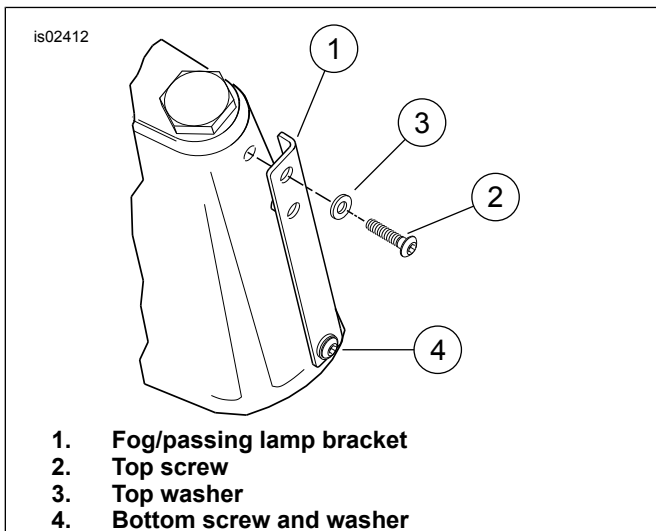

Figure 3. Passing Lamp Bracket
1. See Figure 3. Remove only the **top** screw (2) and washer (3) holding the fog/ passing lamp bracket (1) to the front and back panel. Keep the bottom screw and washer (4) in place. The top screw can be discarded, but retain the washer.